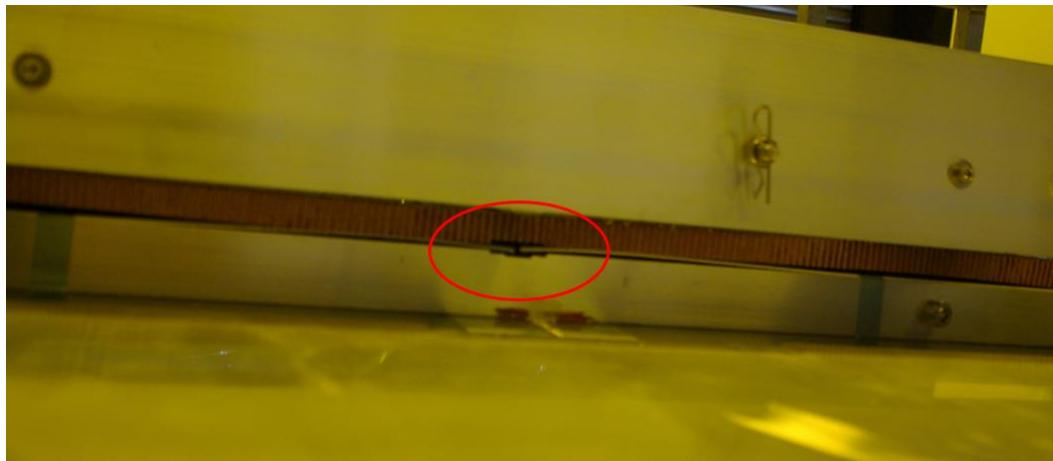

Figure 47 Alignment of the Panel with respect to the endpieces mirror side
- 5.1.4.11 Take the honey comp panel "HE_LHCb_SciFi_PAN_908410_A_0__LHCb-SciFi-Verbundplatte-LI" with the "Lifting and Turning device" by using vacuum with the vacuum pump "Leybold DIVAC 2.2 L" and place it on the top of the gluing jig with rough positioning by taking for reference the cut out in the middle for the endpieces mirror side (Figure 47).